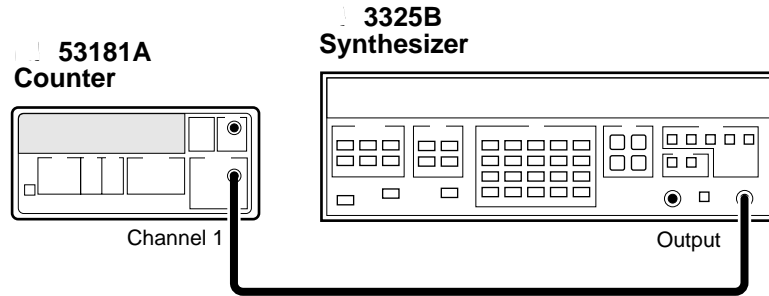

Figure 1-11. Trigger Level Test Setup
- 1 Connect the output of the Agilent 3325B to Channel 1 of the Counter as shown in Figure 1-11.